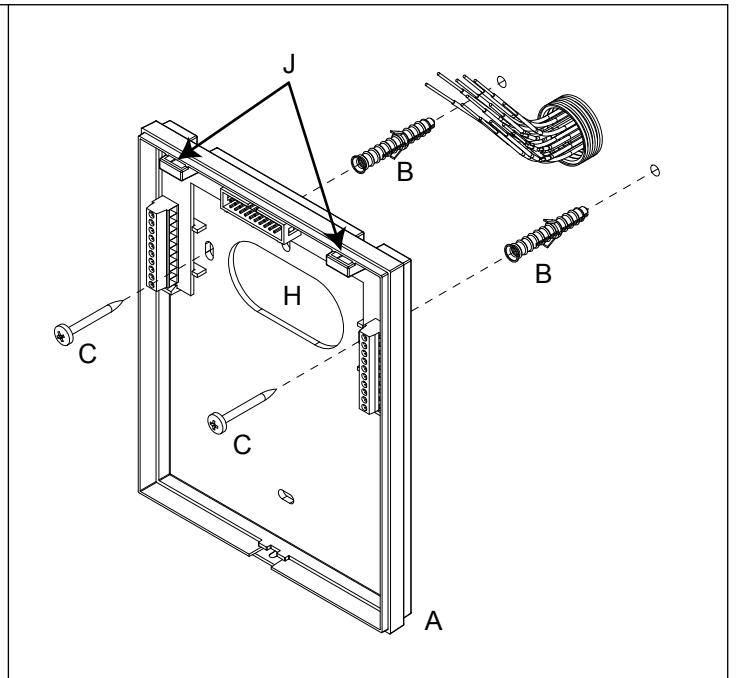
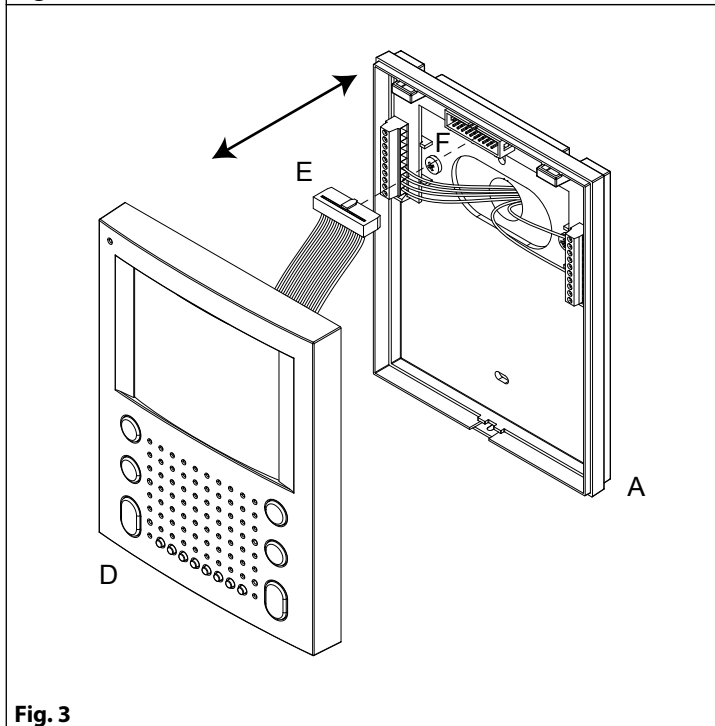
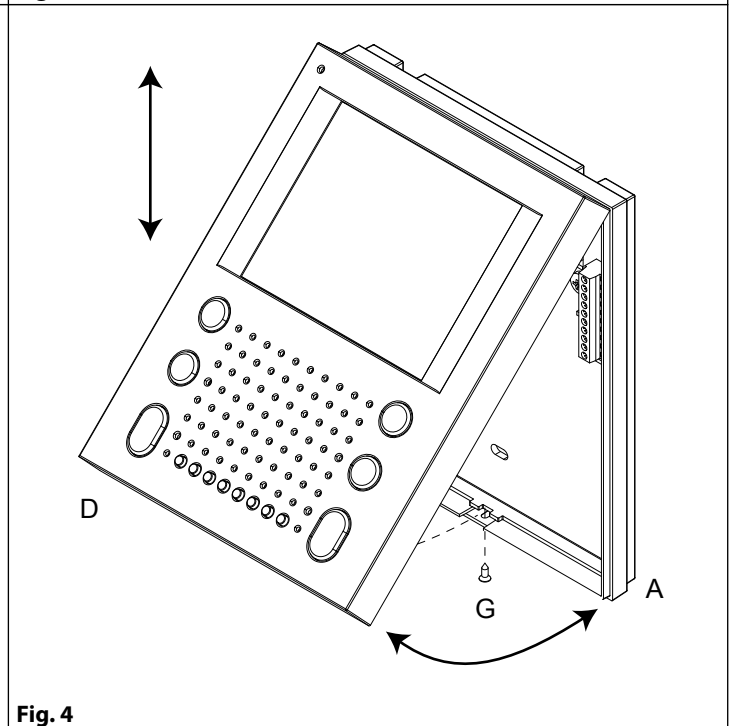

Fig. 2
Fig. 3
Fig. 4
1. To install the videomonitor it is necessary to open it. Follow picture **Fig. 4**: turn screw "G", pull cover "D" and lift it up (or push it forward if the videomonitor is in horizontal position), then disconnect plug "E" (**Fig. 3**) from plug "F" on the connection board housed on the bottom "A".
2. Leaving approximately 135cm from the finished floor, fit the bottom "A" against the wall and mark the fixing holes considering that the cables must be fed through the opening "H" (**Fig. 2**).
3. Make the holes, and fix bottom "A" on the wall using the two wall plugs "B" and the two screws "C" as shown in **Fig. 2**.
5. As shown in **Fig. 3**, move cover "D" close to bottom "A", connect plug "E" to plug "F" on the connection board then proceed with the next step.
6. Hook cover "D" to bottom "A" by using the two clips "J" (**Fig. 2**) as shown in **Fig. 4** then push down cover "D" towards bottom "A". Then proceed with system testing.
7. When finished the testing, fix cover "D" at the bottom "A" using the screw "G" (**Fig. 4**).